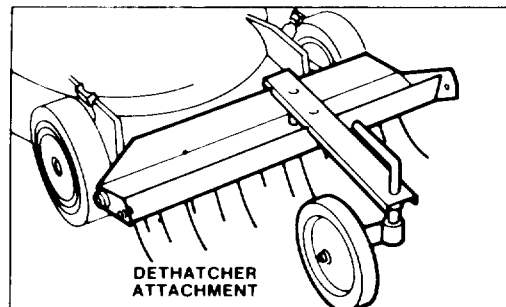

Figure 8
**REMOVE THATCH**—As spring tines on optional Toro Dethatcher scratch and vibrate through the grass, thatch is loosened and conveniently vacuumed into the bag (Fig. 8).